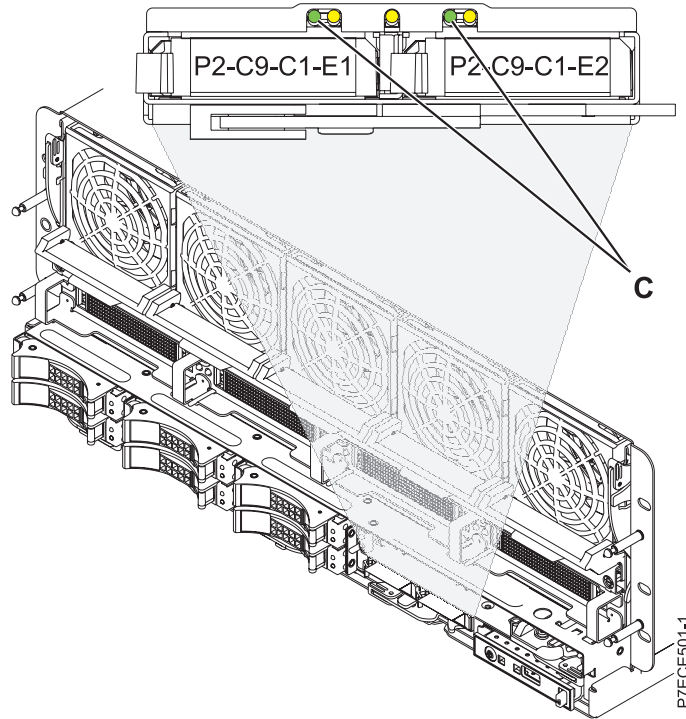

Figure 2. Cache battery LEDs
6. With the lever (A) in the extended position, slide the 175 MB Cache RAID – Dual IOA Enablement card into the slot as shown in Figure 2.